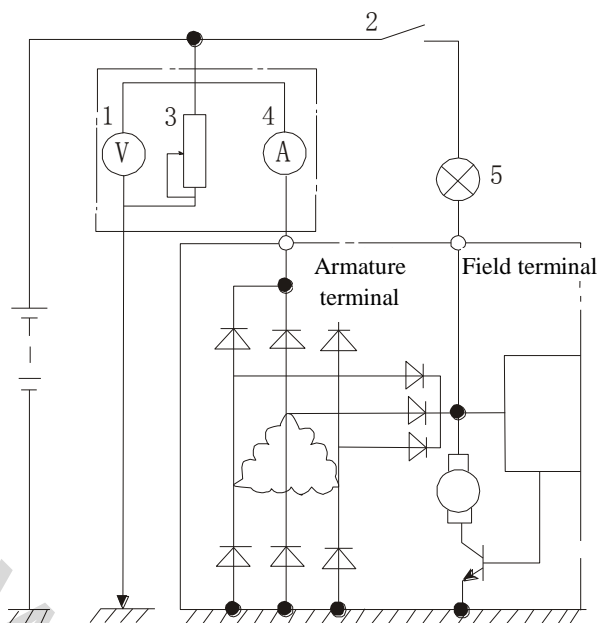

Fig.12-28 Performance Check of Generator and Regulator
3) Connect the voltmeter, ammeter and varistor to the output circuit of generator, as shown in Fig. 12-28.